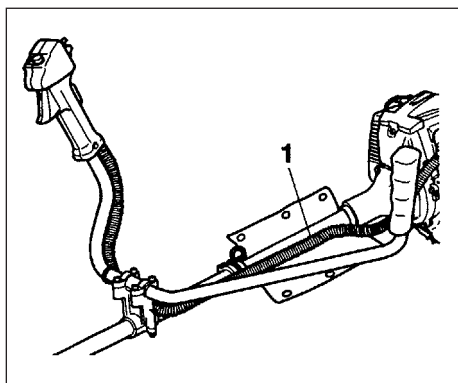

Fig.1-3B
Unhook the hip pad and wrap the tubed stop cords and throttle wire (1) with it. (Fig. 1-3B)